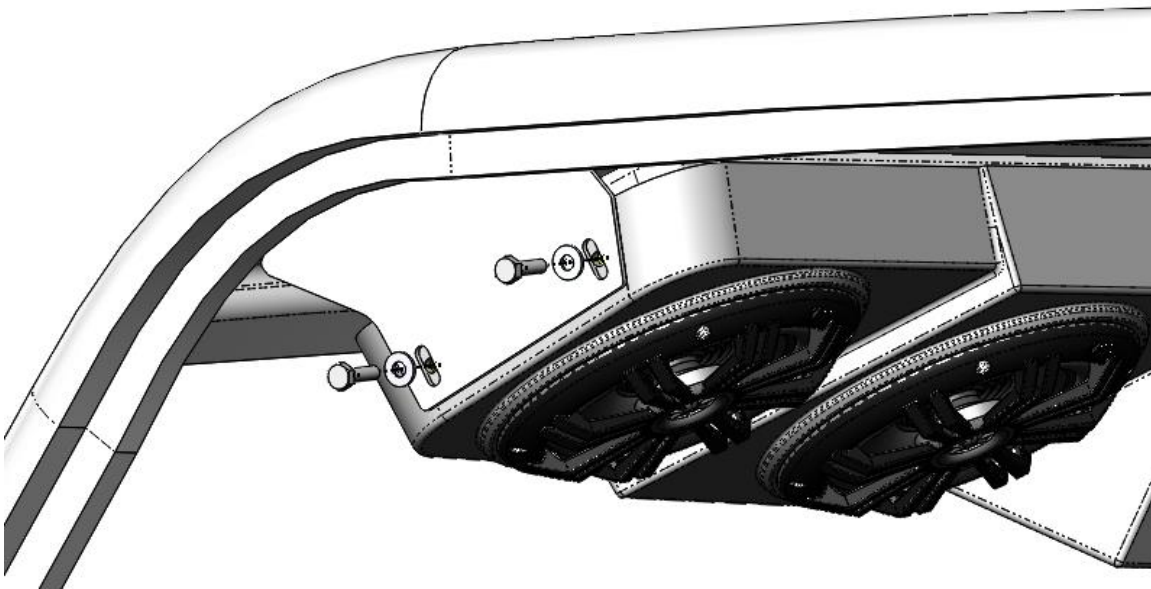
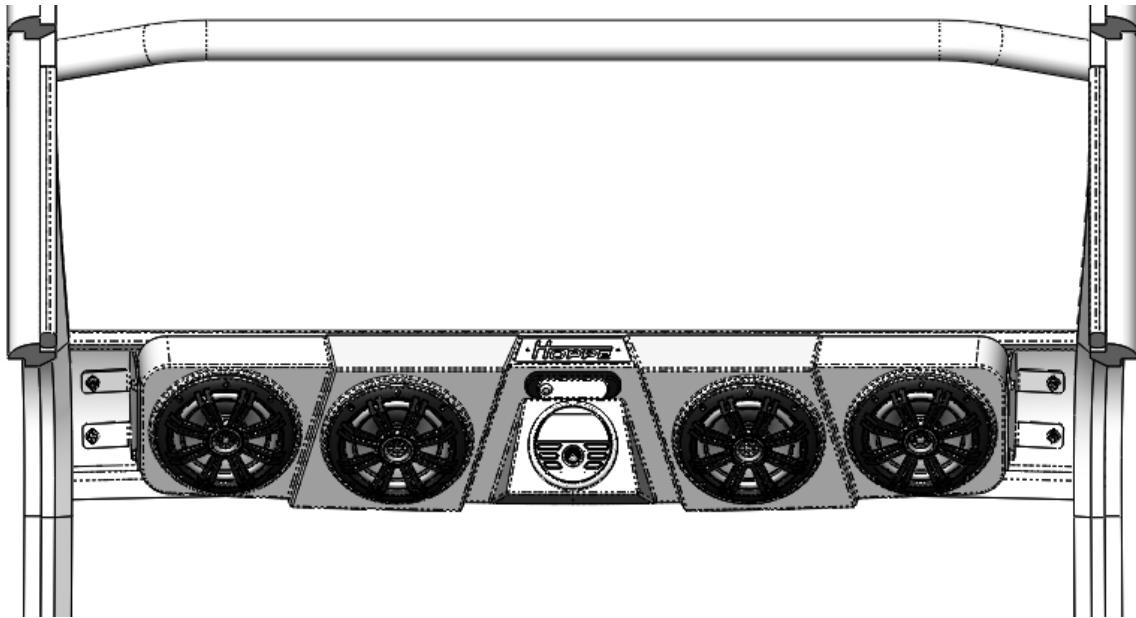

Figure 18: Install the $\frac{1}{4}$ "-20 bolts and washers to mount the Audio Mini to the brackets.
Figure 19: Loosely install the sound system on the mounting brackets.
- Using an assistant, hang the *Audio Mini* off-road sound system on the brackets using the supplied $\frac{1}{4}$ "-20 bolts and washers (loosely tightened). **Note: The sound system weighs up to 25 lbs. Since you will have to lift and bolt each end, it is helpful to have an assistant for this step.** See Figure 18 and Figure 19. Driver side shown. (Passenger side similar)